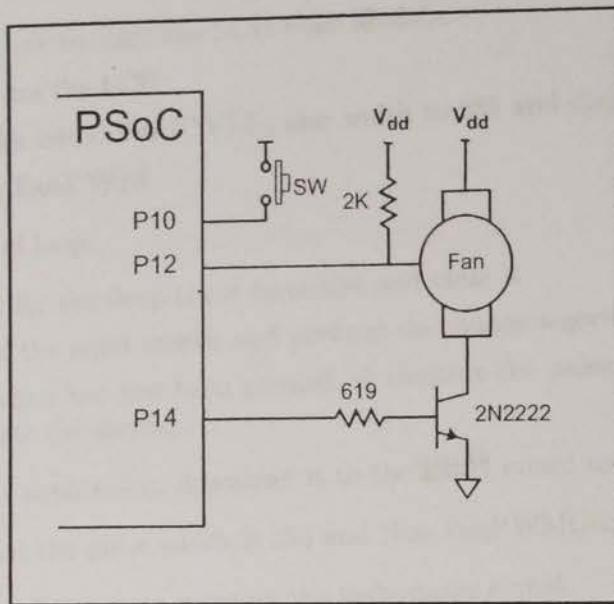

Figure 1.27: Fan schematic.
- Configure the schematic as shown in Figure 1.27.